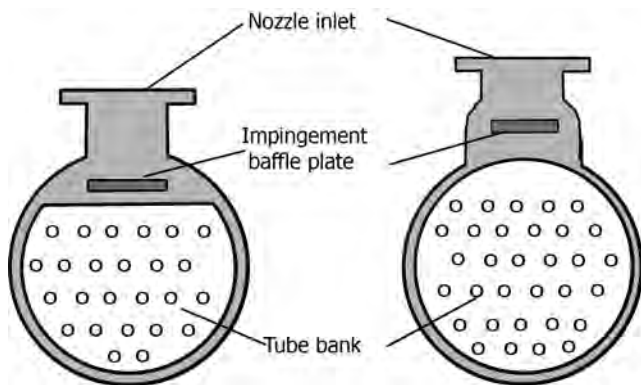

FIGURE 10.31 Use of impingement baffle.
- Figure 10.31 illustrates alternative arrangements of impingement baffle.